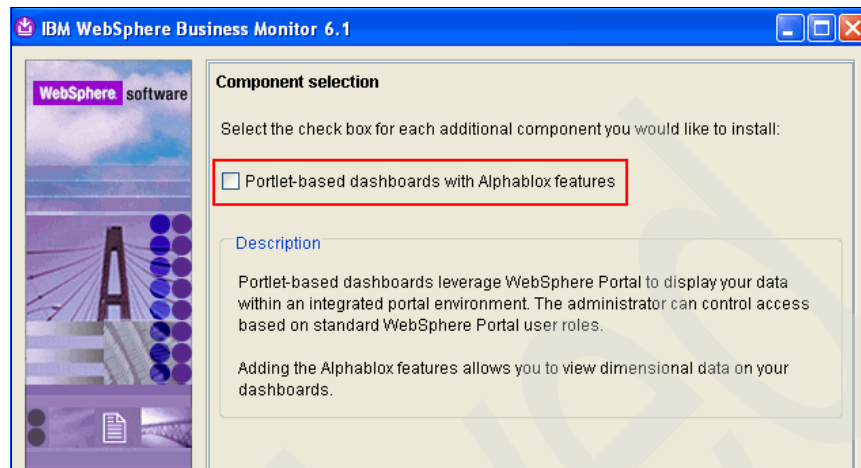

Figure 3-24 WebSphere Business Monitor installation: Component selection
7. In the Component selection panel (Figure 3-24), clear the **Portlet-based dashboards with Alphablox features** check box and click **Next**.